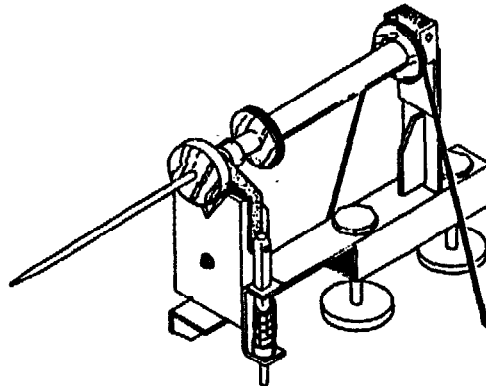

Figure 4.1 – Rewind spindle on a medium yarn spinning mechanism
- For a *medium yarn spinning mechanism* (figure 4.1):